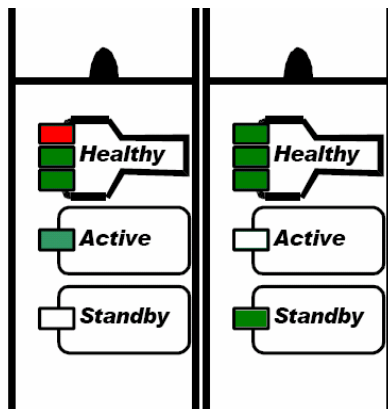

Figure 15-13: Replacement
- 2) The replacement module will go into standby mode. Check that all its *Healthy* LEDs are green and its *Standby* LED is steady green, as shown in Figure 15-13. This may take a few seconds.